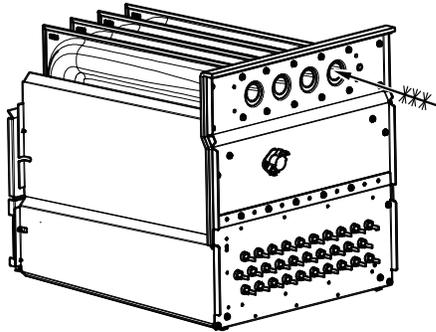

Fig. 71 – Cleaning Heat Exchanger Cell
8. Clean heat exchanger openings with a vacuum and a soft brush. See Fig. 71.